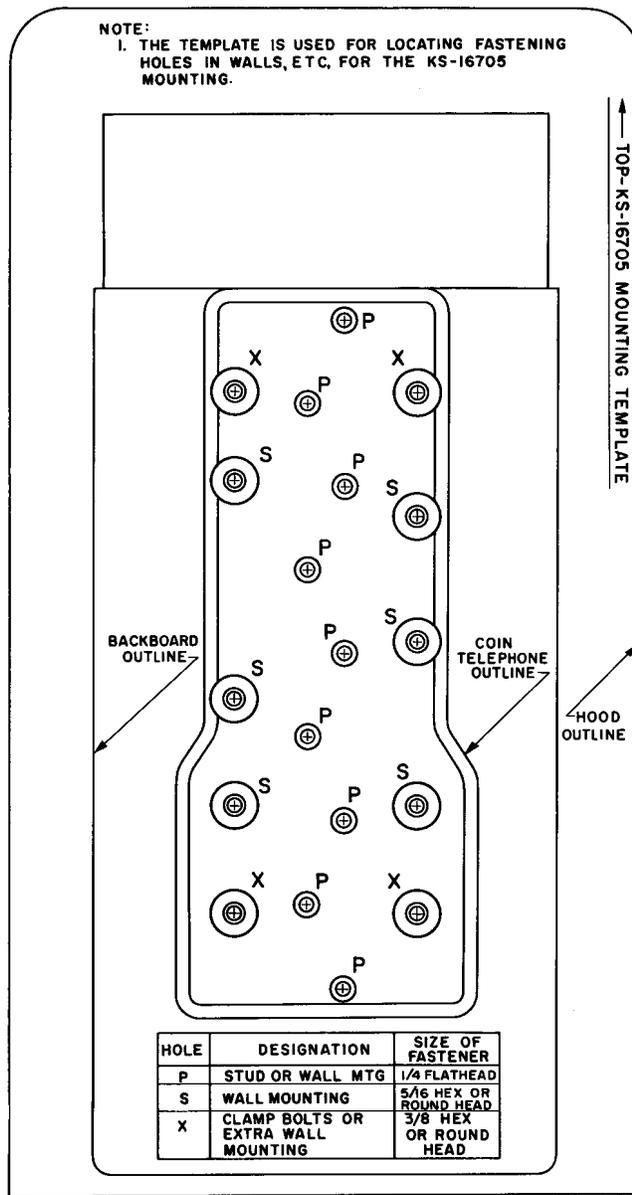

Fig. 10—Paper Template
3.11 Place paper template, B-192542 (Fig. 10), furnished with each mounting at proper height on wall (42 inches from ground level to